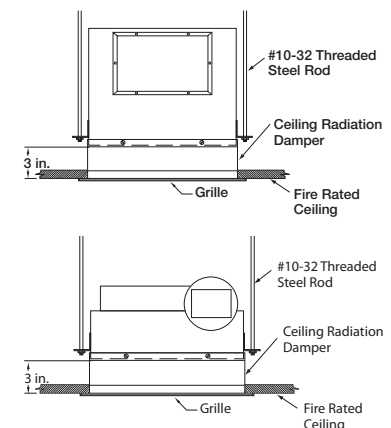

Figure 4 — Installation
**NOTE:** Ceiling radiation damper must be installed flush with the finished surface of the ceiling. See Figure 4.